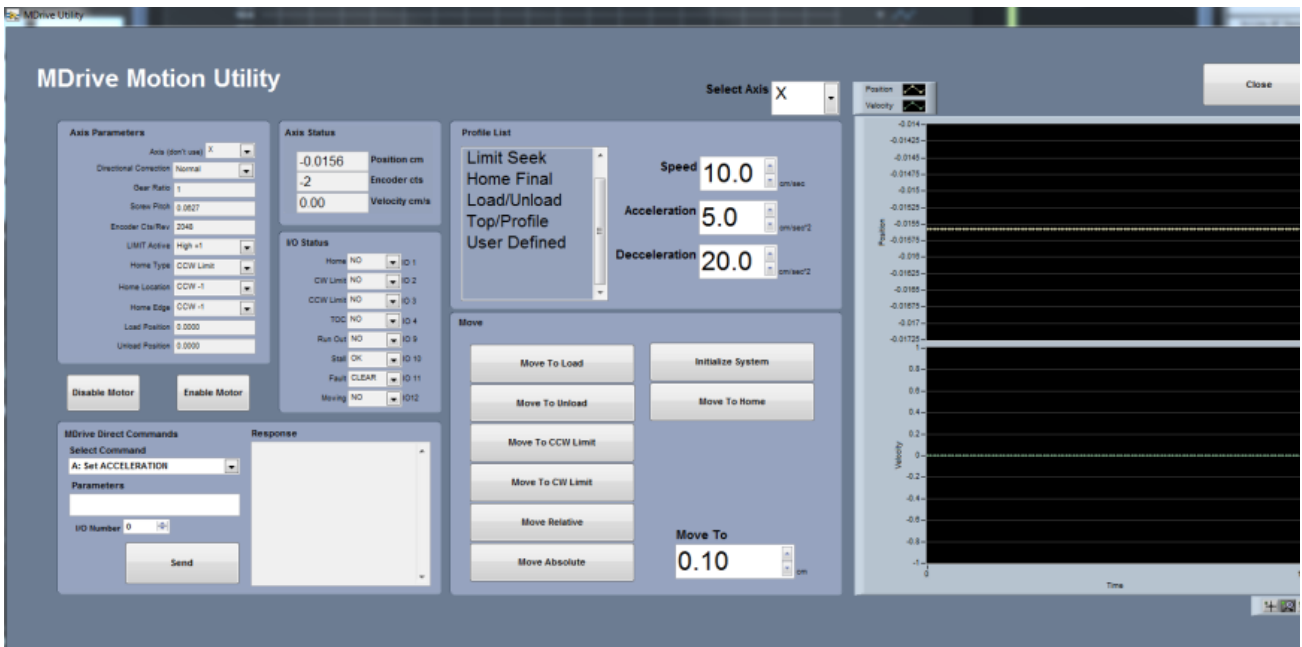

Figure 32. Motion Utilities window
- Click the **Motion Utility** to open the Motion Utility window (Figure 32) and test the settings. Click **Close Utility** to exit this window.
- **Track Length:** Distance in cm between the limit switches. Use the **MDrive Motion Utility** (Figure 32) to determine this value by moving from limit switch to limit switch plus the length of the tray used.